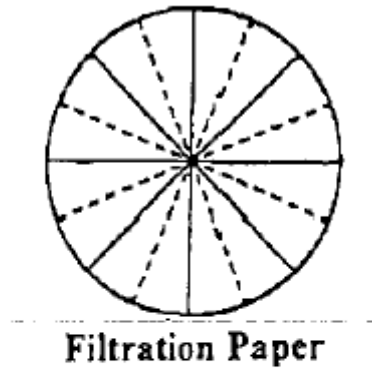

Figure 1. How to fold the filter paper
1. Fold filter paper in half six times to fit into funnel as shown in Figure 1.